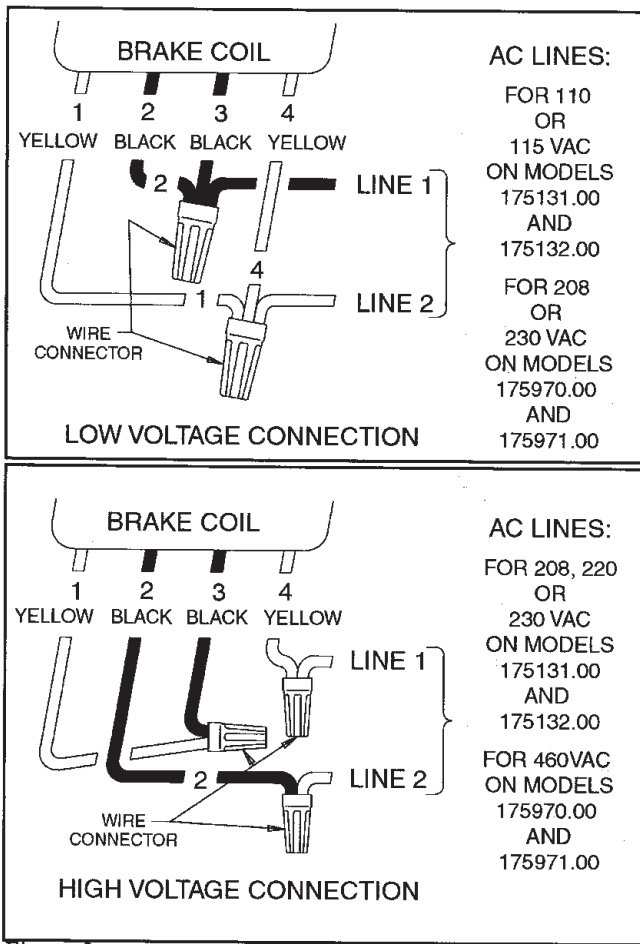
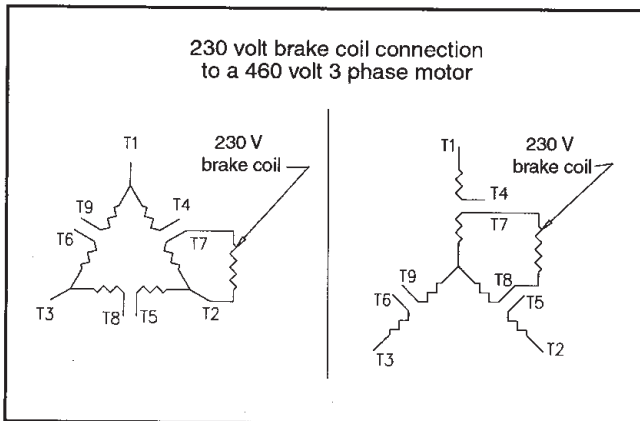

Figure 2
Figure 2A
After securing the brake to the motor, connect coil leads for proper voltage per wiring diagram. (Fig. 2 shows dual voltage coil). Incorrect connection can result in brake failure.
1. Models 175131.00 and 175132.00 with 230 volt brake coils may be connected to a 460 volt 3 phase motor as shown in Fig. 2A. The lead wires on the brake coil must be connected for "high voltage connection" (230 volts) as shown in Fig. 2.